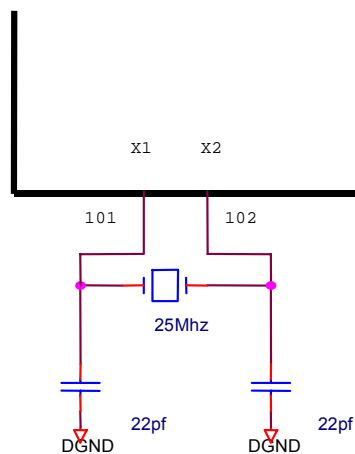

Figure 6
- A crystal can be used to generate the 25MHz reference clock instead of an oscillator. The crystal must be a fundamental type, parallel resonance, connect to XT1 and XT2, and shunt each crystal lead to ground with a 22pF capacitor as shown in Figure 6.